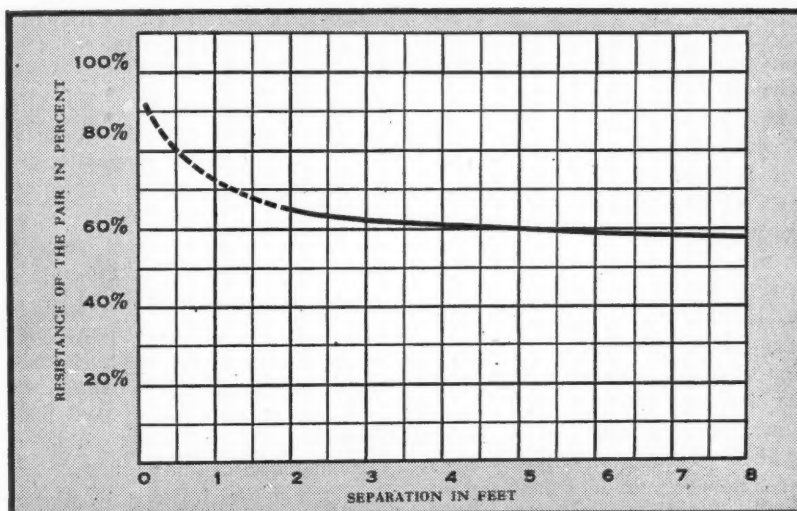
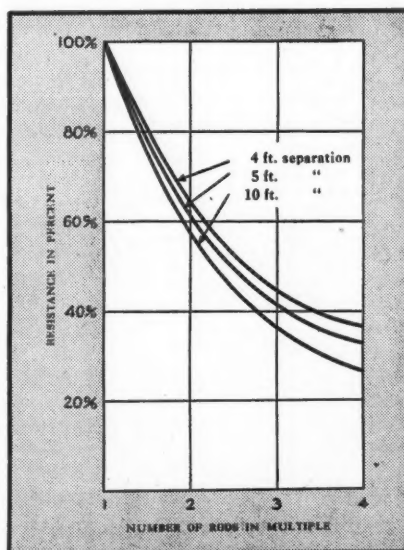

FIG. 3—SPACING OF MULTIPLE RODS has a definite effect. Minimum spacing should be six feet to obtain best results.
FIG. 4—MULTIPLE ELECTRODES are an effective method of reducing resistance. Chart shows approximate reduction obtained with two or more ground rods.
1. **Multiple electrodes**—A method suggested by the National Electrical Code is that of driving one or more electrodes and connecting them all in parallel. Since approximately 90 percent of the resistance of a driven ground is within a radius of 6 to 10 feet of the rod, additional driven rods should be spaced at least six feet away from each other (see Fig. 3). With this spacing, each electrode introduces a new cross-sectional area of unused soil. The approximate reduction in resistance obtained with two or more ground rods, compared with the resistance of one rod, is shown by the curves in Fig. 4.